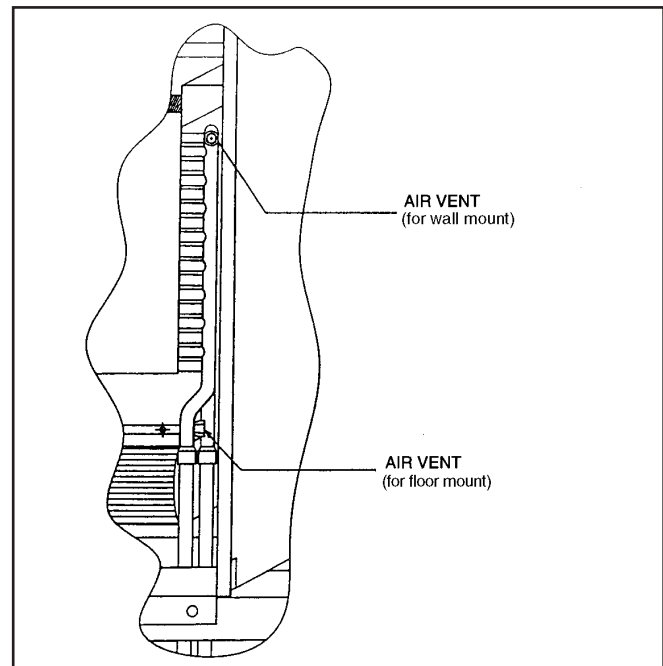

Figure 2. Air vent location
2. For units shipped with only one air vent, change the location of the air vent by interchanging the 1/4" NPT plug and the air vent, both of which are assembled to the coil header. See Fig. 2.